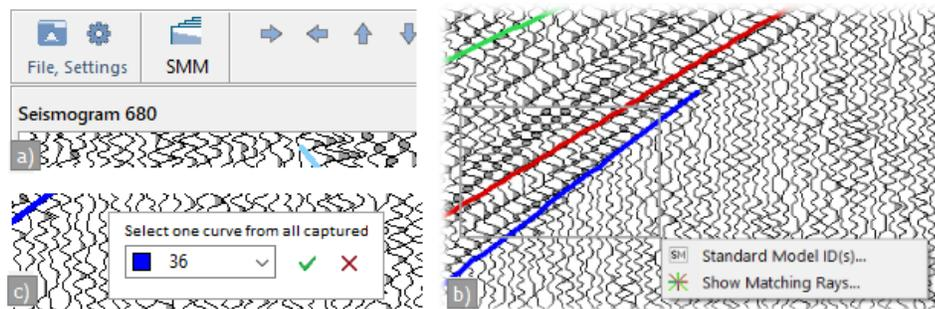

Fig. 3. Special PFV features; a) tool bar leftmost part; b) rubber-band menu; c) model ID dialog.
*Show Model ID(s)* – displays the list of IDs of curves whose points get inside the rubber-band (рис. 3с);
*Show Matching Rays* – invokes Ray Picture Viewer and makes it to display wave rays matching TX-curve points captured by the rubber-band; if points belong to different curves (that is, models), the user selects the model needed in the same dialog (fig. 3с).